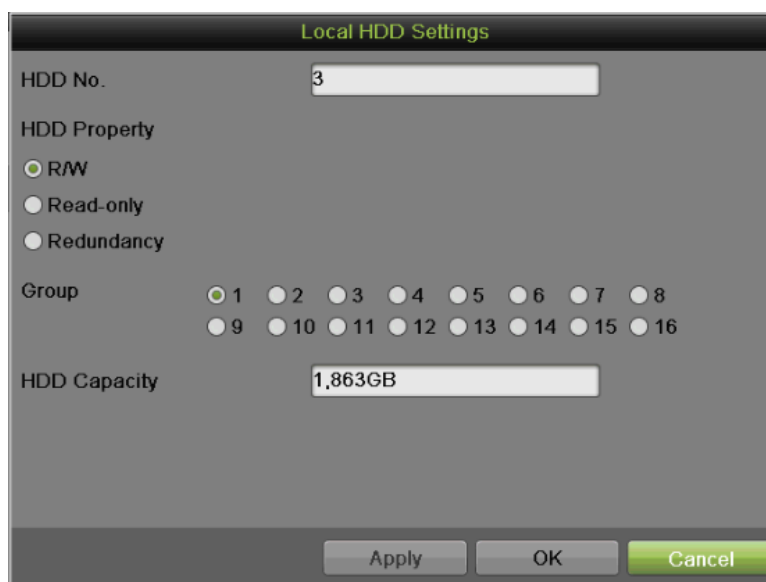

Figure 162 Local HDD Settings
- 1) Select a HDD and click  to pop up the Local HDD Settings menu as shown in Figure 162.